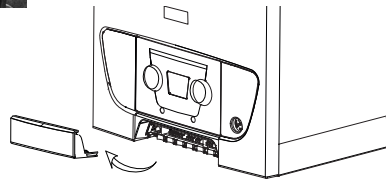

Fig. 32
2. Fully undo the two screws retaining the electrical cover at the bottom of the front panel. Remove the cover (Fig. 32).